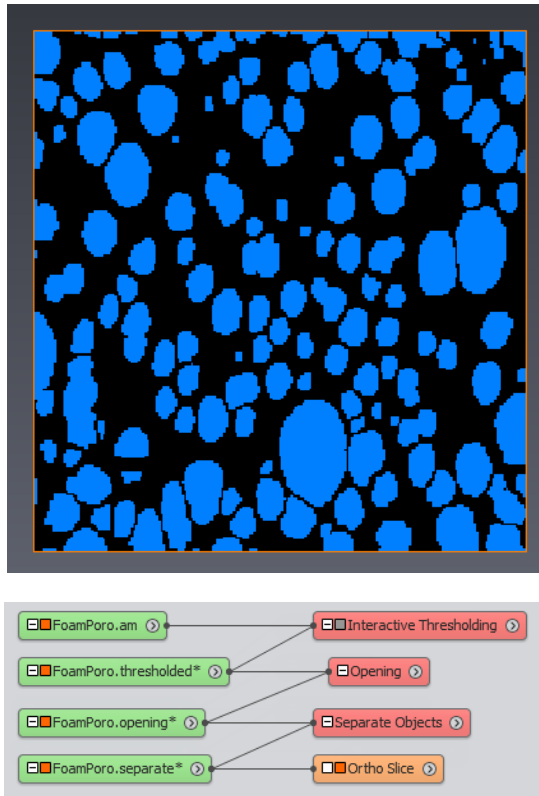

Figure 4.56: Separated pores
- Connect the *Ortho Slice* to the output `FoamPoro.separate` (see Figure 4.56).